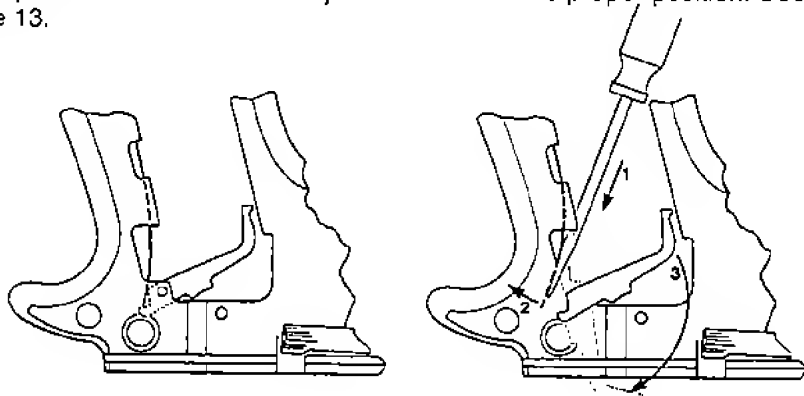

Figure 13-RECTIFYING A REVERSED EJECTOR
A reversed ejector can be rectified with the aid of a screw driver, Figure 13 and the description that follows.
2. Remove four (4) stock screws and stock set from receiver. Be careful to retain the small plunger behind the safety. Sometimes it can fly out as the stock is removed.
- Note:** Cocking hammer should ease sear spring movement, while keeping pistol upside down should allow ejector to return to its proper position. See Figure 13.